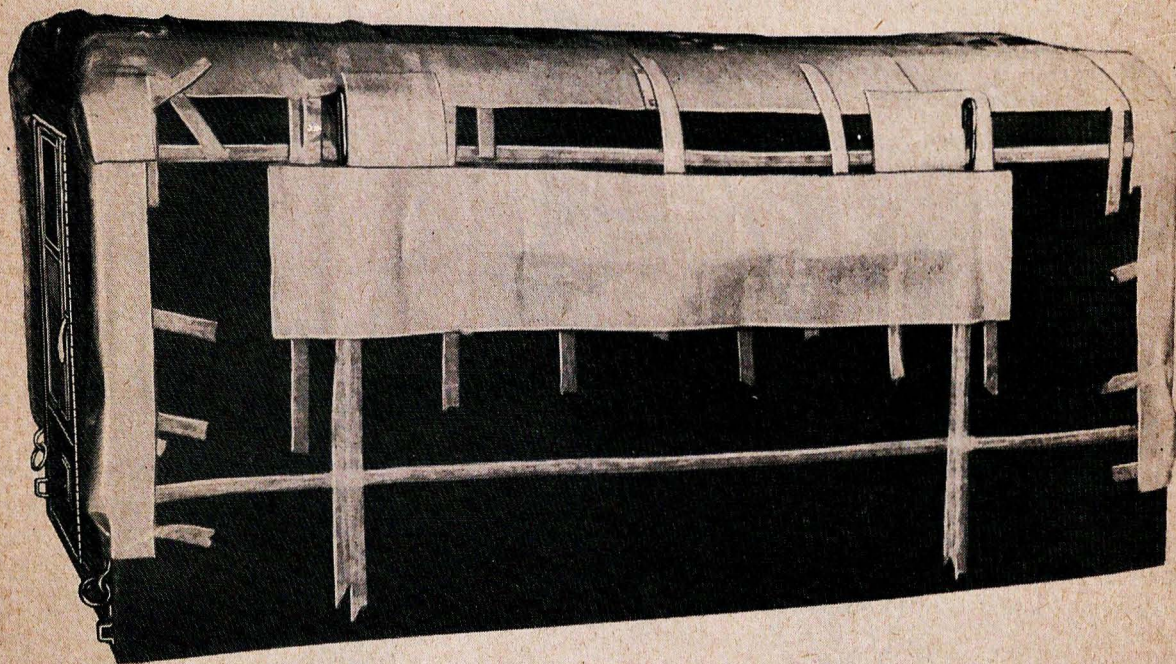

Figure 3. Shelter HO-17-(\*), partially weatherproofed.
a. *Shelters.* Each shelter is mounted on a heavy, wooden, shipping crate platform around which is built the protecting crate (fig. 4). The shelters are secured to their platforms by four corner bolts. The openings (doors, windows, ventilator, etc.) in the shelter are covered with adhesive tape, over which a sealing compound has been placed (fig. 3.) The shelter is protected against extreme humid conditions by a waterproof wrapping. Bags of activated desiccant (silica gel) are placed at random throughout the shelter to absorb moisture. All components and containers of components within the shelter are wrapped in waterproof paper, which is sealed with water-resistant tape